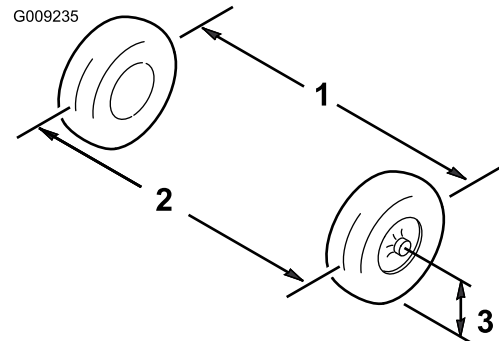

Figure 47
1. Measure the distance between both of the front tires at the axle height at both the front and rear of the front tires (Figure 47).